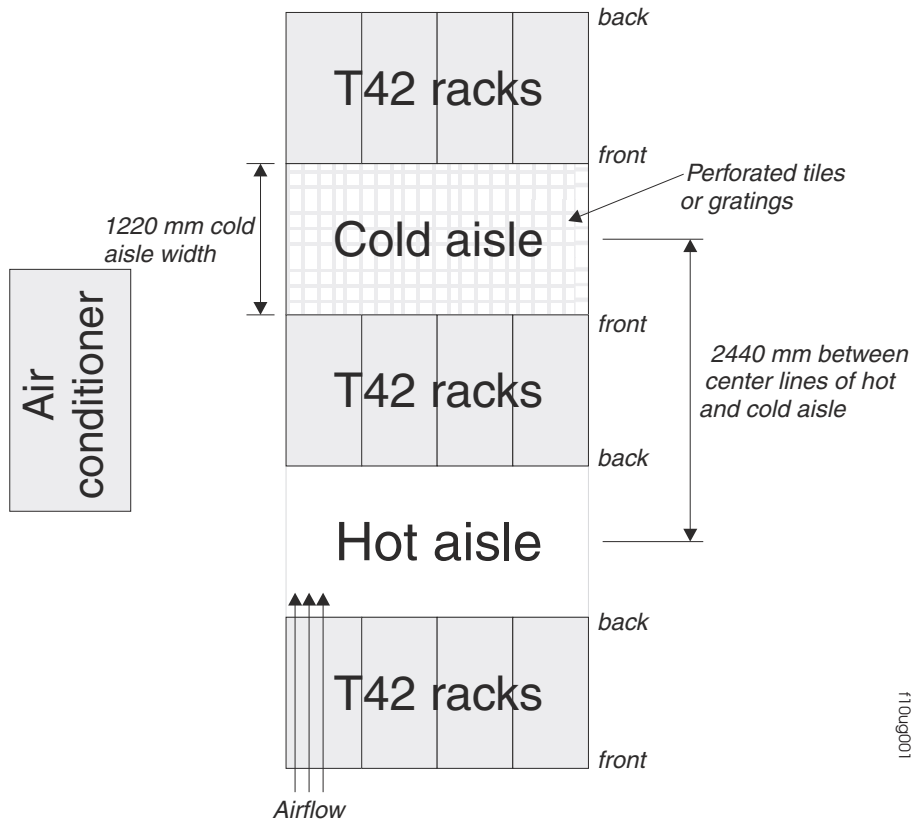

Figure 6. Example of cold aisle/hot aisle rack configuration
- Air enters at the front of the rack and leaves at the back. To prevent the air that is leaving the rack from entering the intake of another piece of equipment, you must position the racks in alternate rows, back-to-back and front-to-front. This arrangement is known as “cold aisle/hot aisle” and is shown in Figure 6 on page 12.